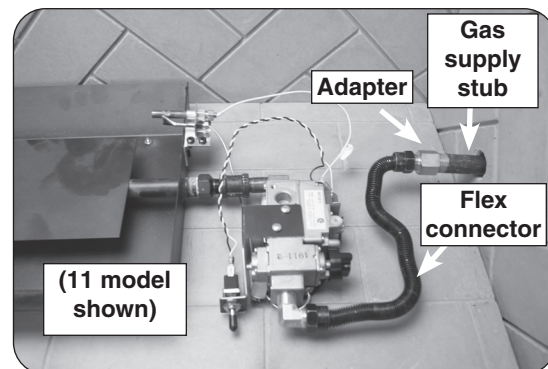

Fig. 17-1 Connect gas supply
2. Locate the gas-supply stub inside the fireplace and remove the cap, if attached (reference Fig. 17-1).
5. **Be sure gas to the fireplace is off.** Remove the adapter connected to the flex connector. Attach the adapter to the gas-supply stub using a pipe compound resistant to all gasses. Tighten securely. Then attach the open end of the flex connector to the adapter. Tighten securely (see Fig. 17-1). Ensure the pan rests level on the fireplace floor after connection. Adjust the pan if necessary.
It is recommended the receiver/switch box be placed outside of the firebox (left side), and a minimum of 6" from the burner/flame. See Fig. 17-1, A.
Alternatively, the box can be placed inside of the firebox, but must be oriented as shown in Fig. 17-1, B. Set the box on its side and place the bottom of the box toward the left firebox wall (box must be a minimum of 6" from the burner/flame). DO NOT place at the rear of the firebox.